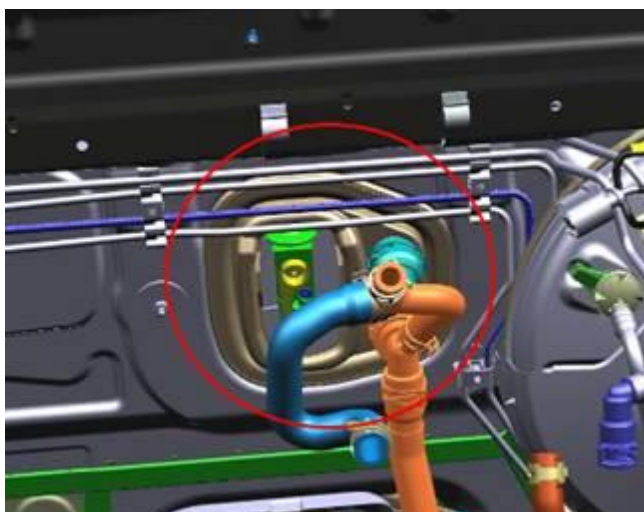

Figure 2. HVAC unit bulkhead pass-through.
3. Figure 2 shows the HVAC unit bulkhead pass-through from the engine compartment with the seal installed.